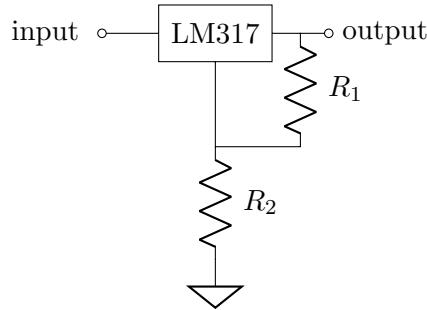

Figure 3: LM317 linear regulator circuit.
- b) For the circuit of Fig. 3, with an input voltage of 9V and  $R_1=510\Omega$ , what's the value of  $R_2$  such that the output voltage is 5 V? What is the efficiency of the regulator in this case? “LM317” refers to the Texas Instruments LM317 voltage regulator IC. You should be able to find its datasheet online.